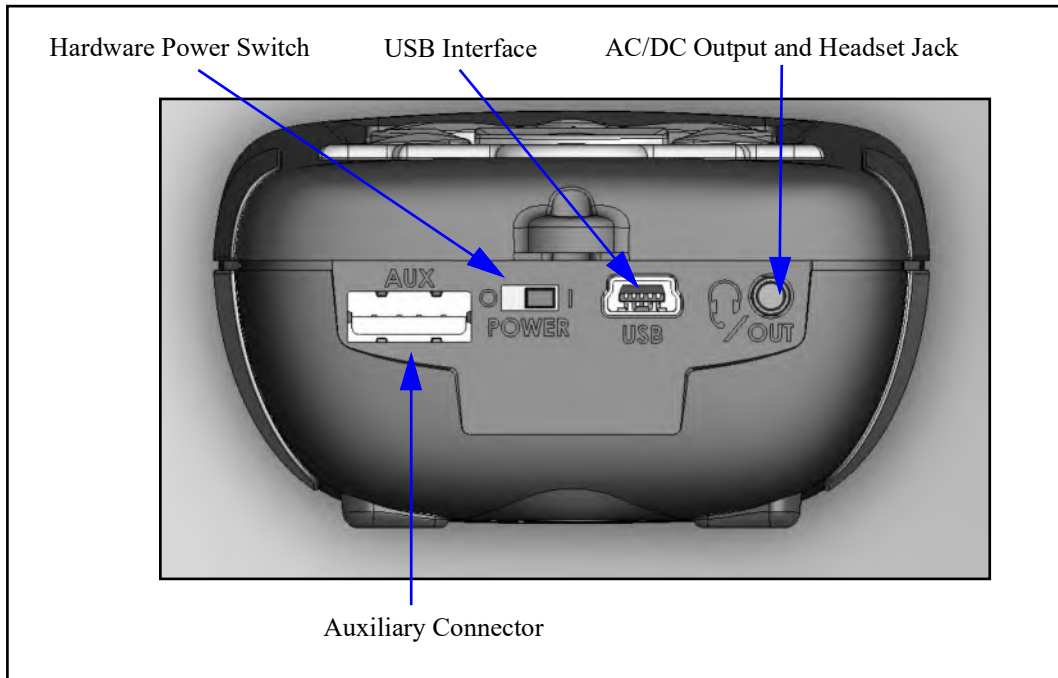

FIGURE 2-2 LxT Bottom View
- AC/DC output, control, USB, and external power connectors (shown in FIGURE 2-2)